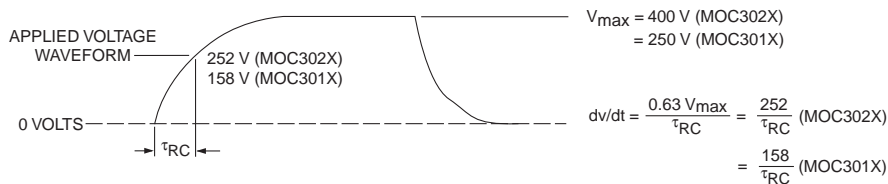

Figure 5. Static dv/dt Test Circuit
2. This is static dv/dt. See Figure 5 for test circuit. Commutating dv/dt is a function of the load-driving thyristor(s) only.
**Fig. 5 dv/dt vs. Temperature**